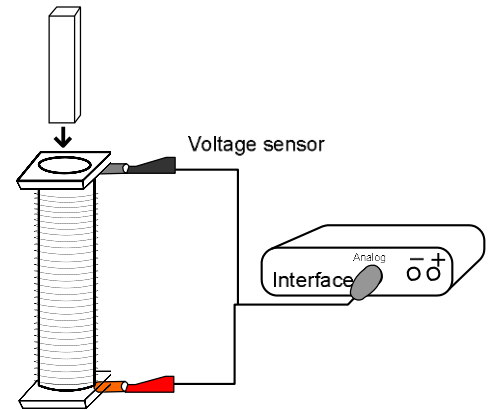

Figure 6
- 1) Delete all data from part 1, and then setup the solenoid as shown in the Figure 6. You will be measuring the induced voltage as before, but this time as the magnet falls through the solenoid.